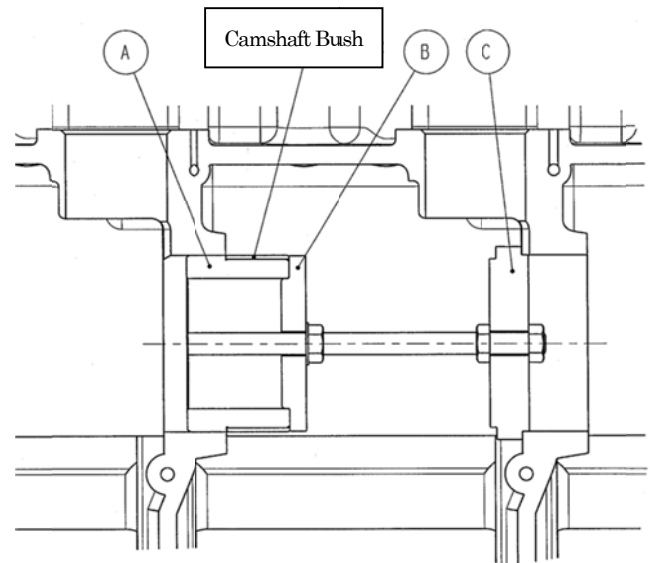

Fig.3 (for insertion)
- 1) Insert the tool A into the camshaft bush and assemble the tool as shown in Fig.3 (for insertion).